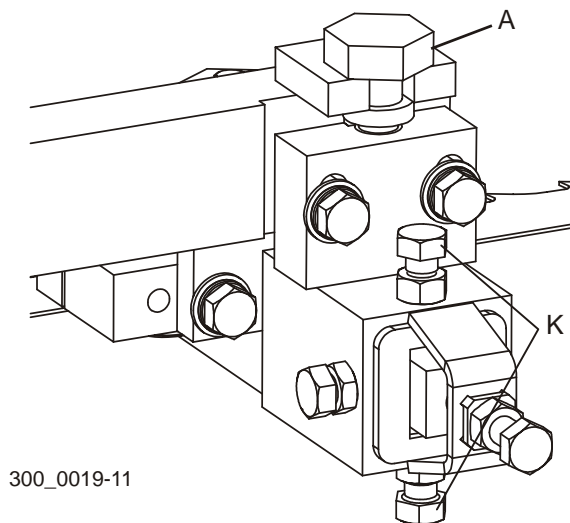

FIG. 7-46
See Figure 7-46. Optional All-Ceramic Guides: Loosen the jam nuts on bolts (K). Adjust the bolts up to tilt the blade down. Adjust the bolts down to tilt the blade up. Retighten the jam nuts and recheck the tilt of the blade guide assembly with the blade guide alignment tool.